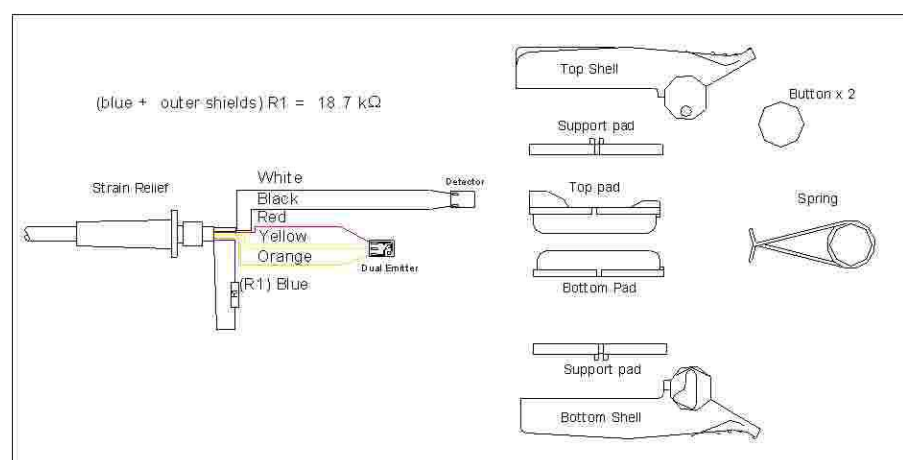

Fig 2.3
8. Solder wires to the detector, LED/I.R as shown in fig 2.3